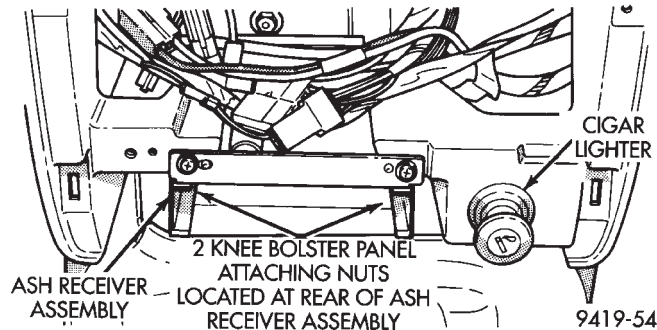

Fig. 16 Wiring Harness Connections To CigarLighter And Ash Receiver
(16) Remove the vehicle wiring harness connectors from the cigar lighter and ash receiver assembly (Fig. 16).
(17) Remove the 2 nuts located at the rear of the ash receiver, (Fig. 16) attaching the lower knee bolster panel to the floor pan support bracket.
(20) Install and securely tighten the 2 nuts at rear of ash receiver, attaching the lower knee bolster panel to the floor pan support bracket (Fig. 16).